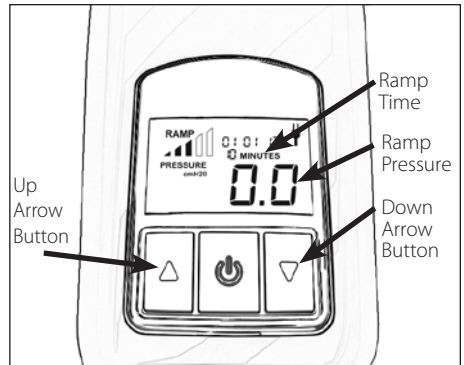

Figure 10
**Arrow Buttons** to increase or decrease the ramp time in 5 minute increments. (Figure 10) Set the ramp time to "00 MINUTES" to disable the Ramp Mode.
Press and hold the **Down Arrow Button** for 3 seconds until the ramp start pressure value flashes. While flashing, repeatedly press either the **Up** or **Down Arrow Buttons** to increase or decrease the ramp start pressure by 0.5 cm H2O increment. (Figure 10) Ramp start pressure must be lower than prescribed pressure.